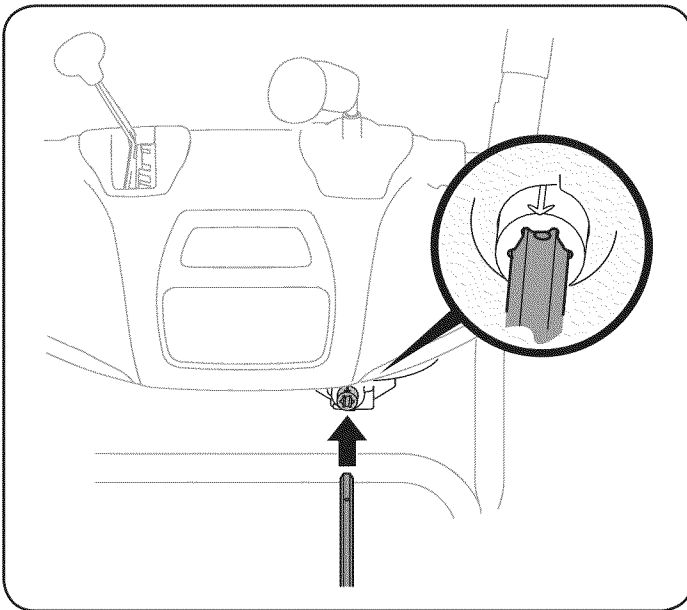

Figure 7
7. Make sure all cables are routed to the left of the chute control rod. Line up the hole in the rod with the arrow on the input shaft and insert the end of the rod into the input shaft below joystick on handle panel. See Figure 7.